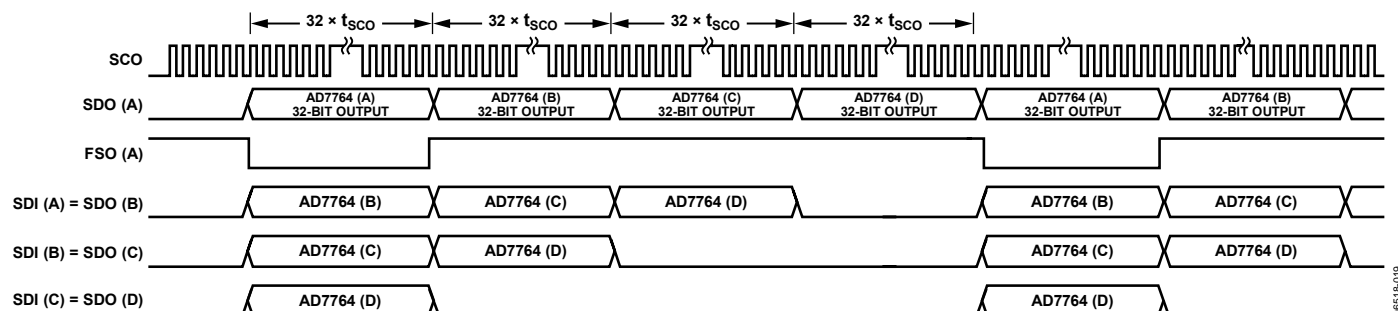

Figure 41. Daisy-Chain Mode, Data Read Timing Diagram
After applying a SYNC pulse to all devices, the filter settling time must pass before the FILTER-SETTLE bit is asserted indicating valid conversion data at the output of the chain of devices. As shown in Figure 41, the first conversion result is output from the device labeled AD7764 (A). This 32-bit conversion result is then followed by the conversion results